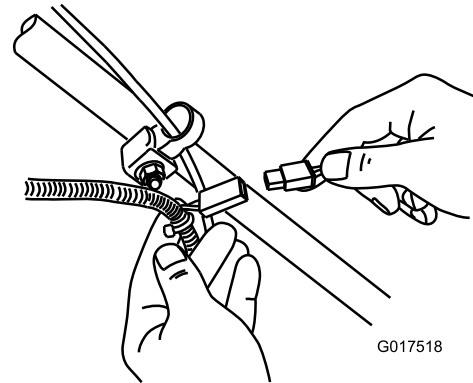

Figure 34
1. Connect the charger to the wire harness located below the ignition key (Figure 34).